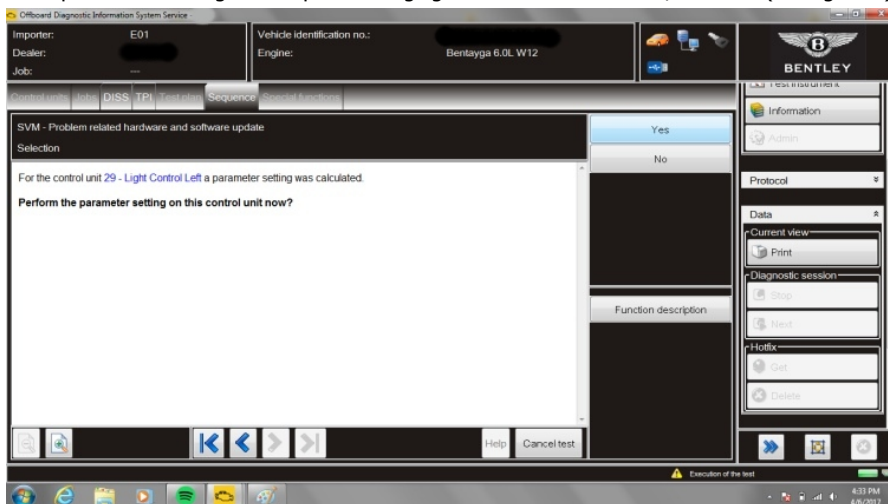

Figure 5
13. Control unit *29 - light control left* will be presented for parameterization allow tester to run through process (see Figure 5)